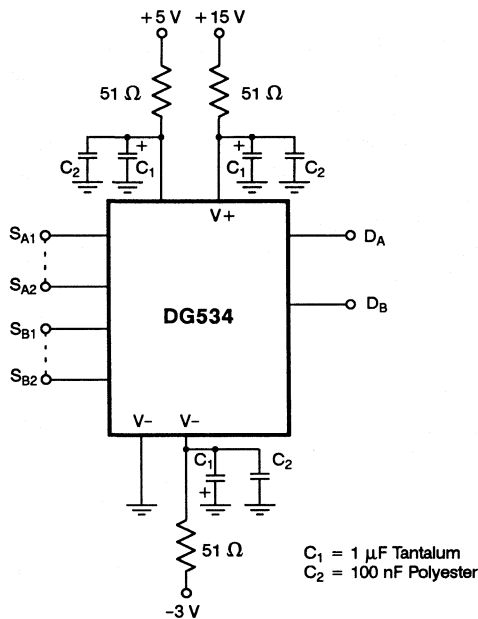

Figure 18. DG534 Power Supply Decoupling
- (d) Additional high frequency protection may be provided by 51 Ω carbon film resistors connected in series with the power supply pins (see Figure 18).